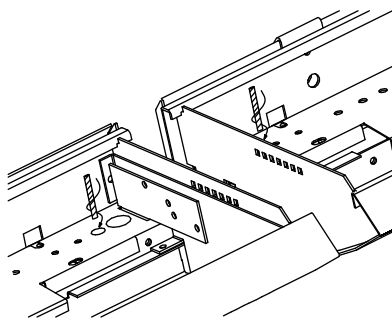

Figure 7
- C. Slide the fixture onto the joiner bracket and securely tighten down the set screws on both fixtures. (Fig. 7)